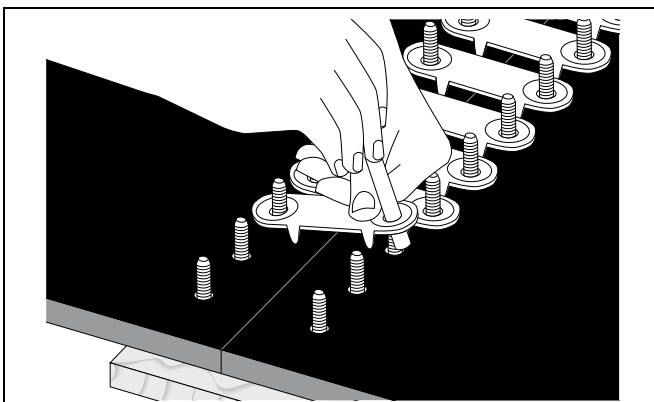

Figure 4I
6. Place top plate over one bolt. Insert Bolthorn Tool through the other plate hole and over the second bolt to pry it into place. (See Figure 4I.)